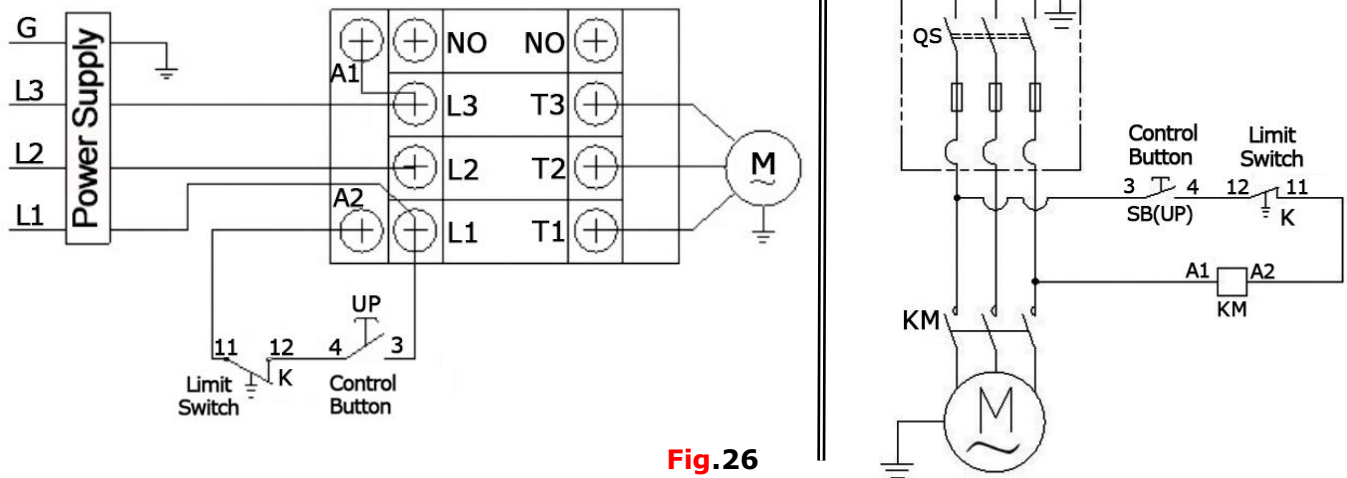

Fig.26
1. Circuit diagram (See Fig. 26)